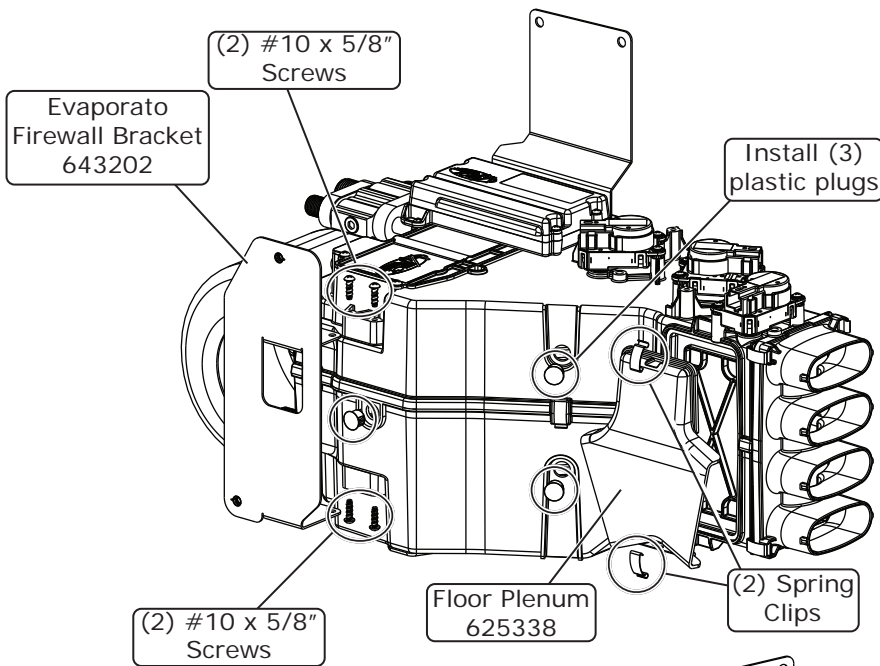

Figure 2
5. Install (3) plastic plugs at locations shown in Figure 2, below.
6. Install the floor plenum onto the evaporator module with (2) spring clips (See Figure 2, below).
7. Install the evaporator firewall bracket onto the evaporator module with (4) #10 x 5/8" screws (See Figure 2, below).